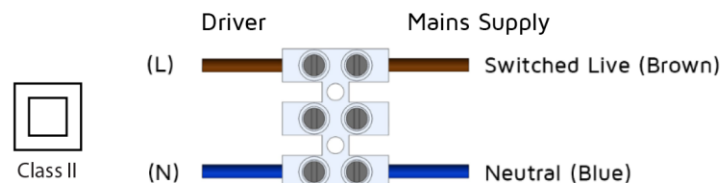

Fig.2
**Step 2:** Wire the flying leads from the LED Driver into the mains supply, Fig.2.